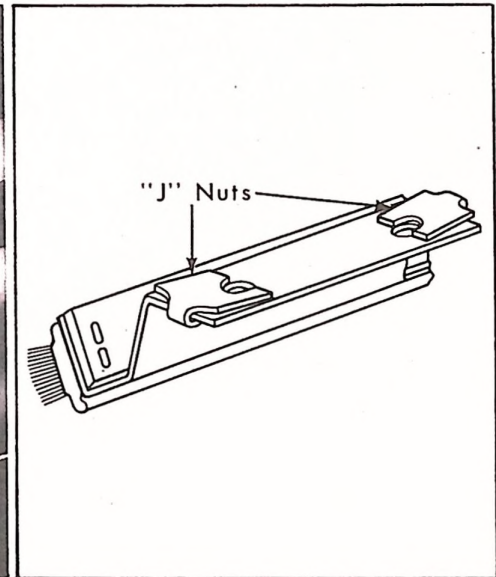

FIGURE 3
2. Assemble "J" nuts to bumpers as shown in Figure 3.